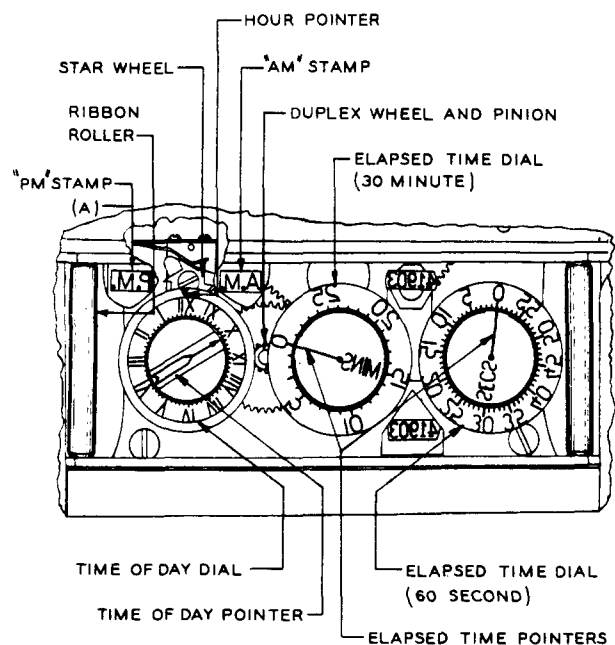

Fig. 5 - Stamping Mechanism — Model 30 Calculagraph Equipped With 30-Minute Elapsed-Time Dial
2.11 Reversal of AM and PM Stamps: Fig. 5(A), 7(A), and 8(A) — On Calculagraphs equipped with a 12-hour time-of-day dial, the AM and PM stamps shall reverse between 12:00 and 12:02 o'clock. The time of day as printed on the ticket shall be used as the basis for checking this requirement.